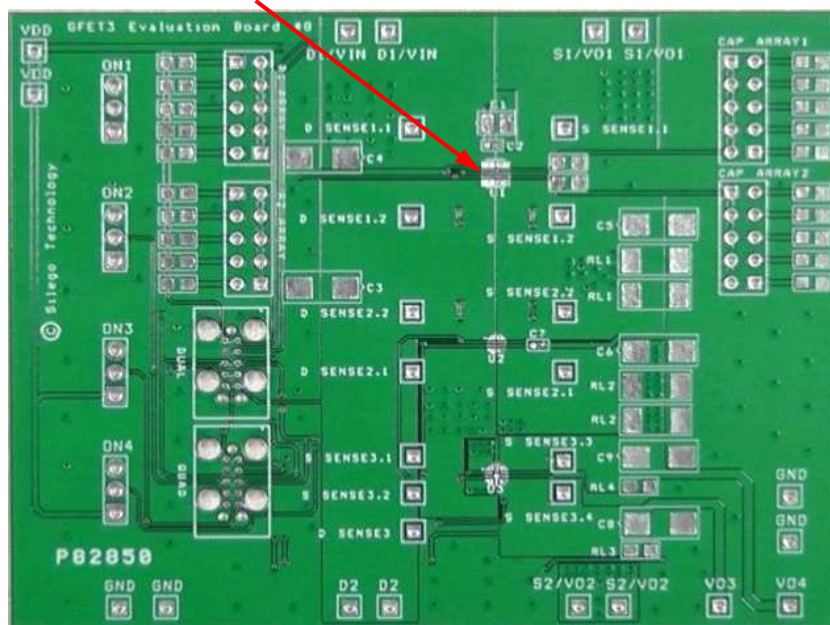

Figure 1. SLG59M1527V Evaluation Board
2. Since the D1, D2, S1 and S2 pins dissipate most of the heat generated during high-load current operation, it is highly recommended to make power traces as short, direct, and wide as possible. A good practice is to make power traces with an absolute minimum widths of 15 mils (0.381 mm) per Ampere. A representative layout, shown in Figure 1, illustrates proper techniques for heat to transfer as efficiently as possible out of the device;
A GreenFET Evaluation Board for SLG59M1527V is designed according to the statements above and is illustrated on Figure 1. Please note that evaluation board has D_Sense and S_Sense pads. They cannot carry high currents and dedicated only for RDS_{ON} evaluation.